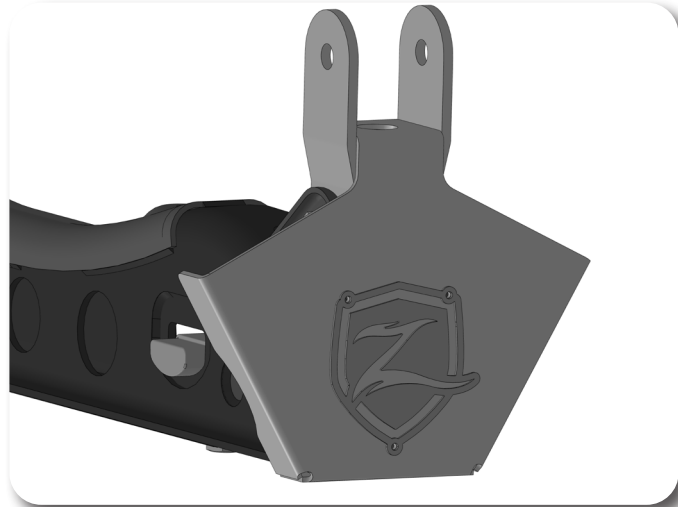

Figure 50
74. Rivet on the Zone Offroad Badge to the torsion bar drop bracket with the provided 1/8" rivets. Figure 50